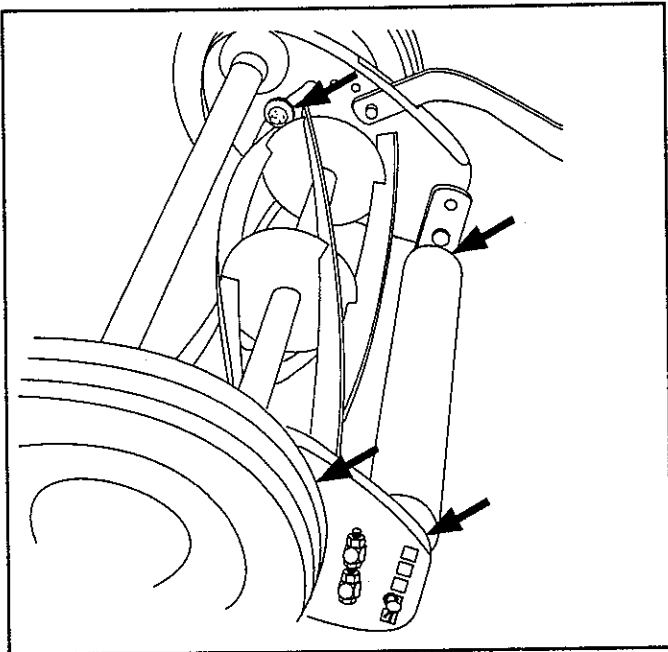

FIGURE 12
- Using engine oil, lightly lubricate the points on the roller and the points between end plates and wheel dust covers as indicated in figure 12. Periodic lubrication of these points will ensure smooth mechanical operation